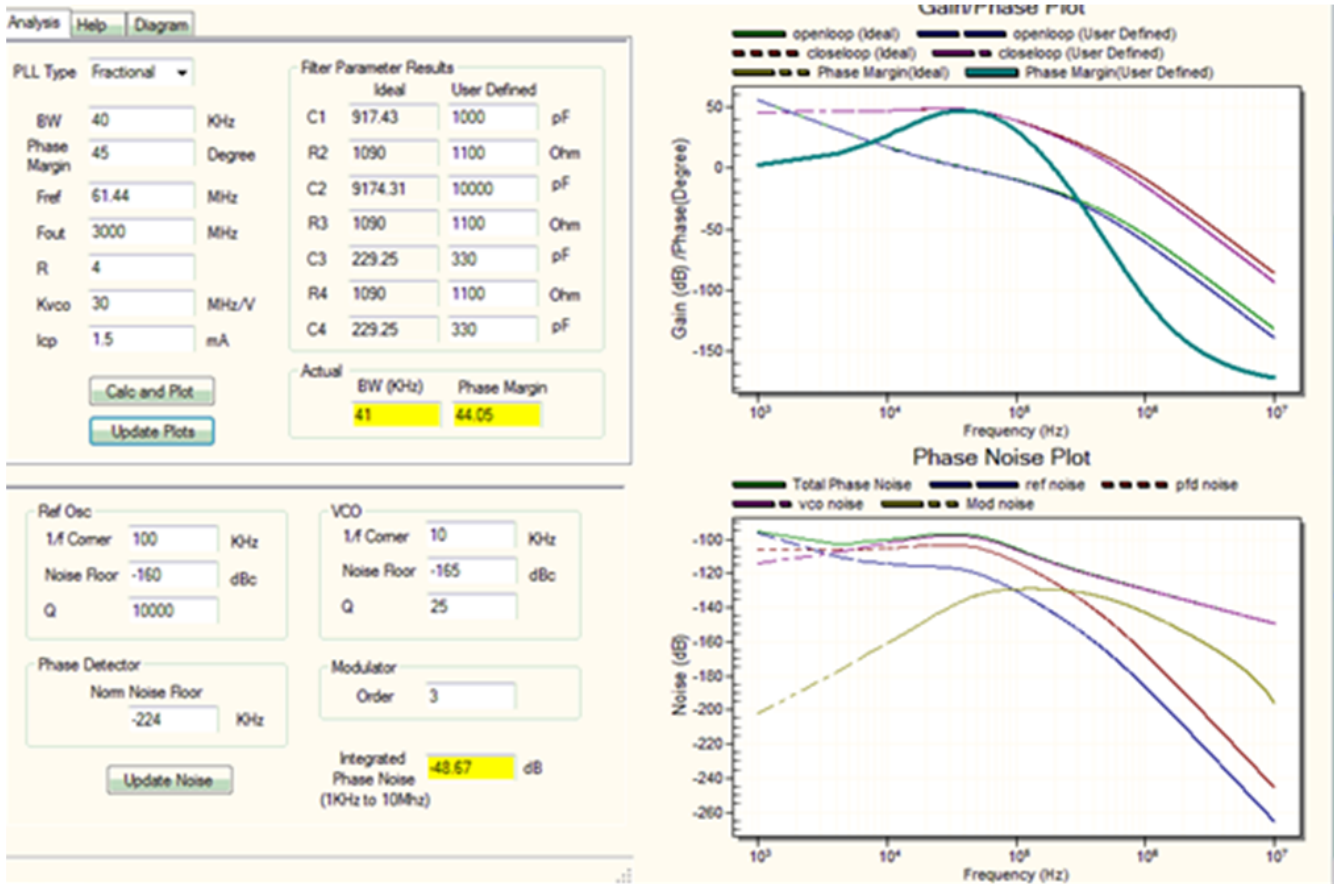

Figure 16. Fractional Mode Loop Filter
3. Figure 16 shows the screen shot of a loop filter tool.